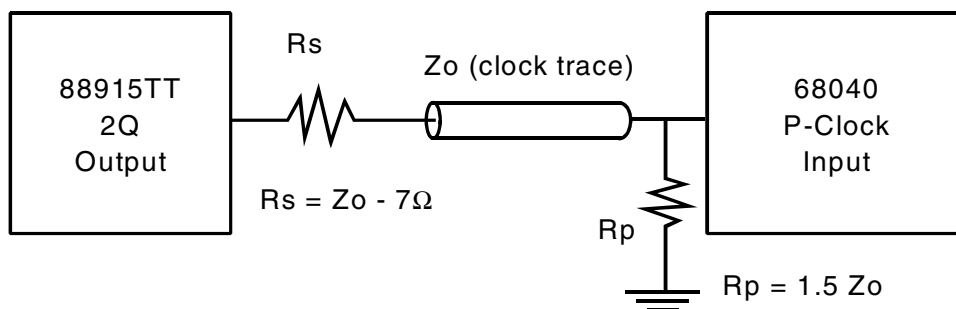

Figure 1. MC68040 P-Clock Input Termination Scheme
- These two specs ( tRISE/FALL and tPULSE WIDTH 2Q output) guarantee that the FCT88915TT meets 68040 P-Clock input specification. For these two specs to be guaranteed by IDT, the termination scheme shown in Figure 1 must be used: